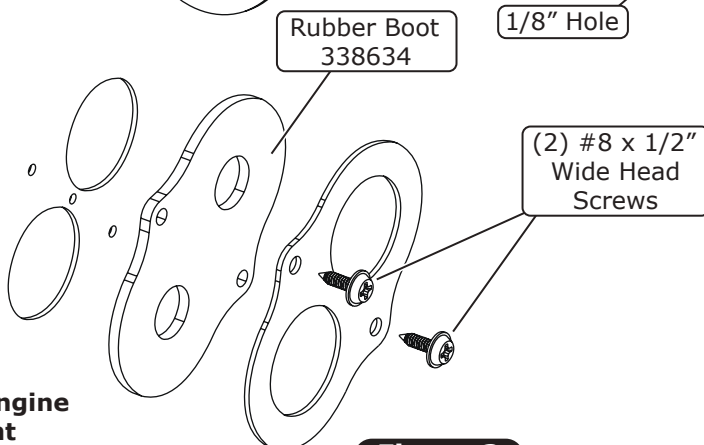

Figure 3
4. From the engine compartment side of the firewall, install the cover plate using (2) #8 x 1/2" wide head screws, and the cover plate rubber boot (See Figure 3 and 4, below). Install onto the firewall.